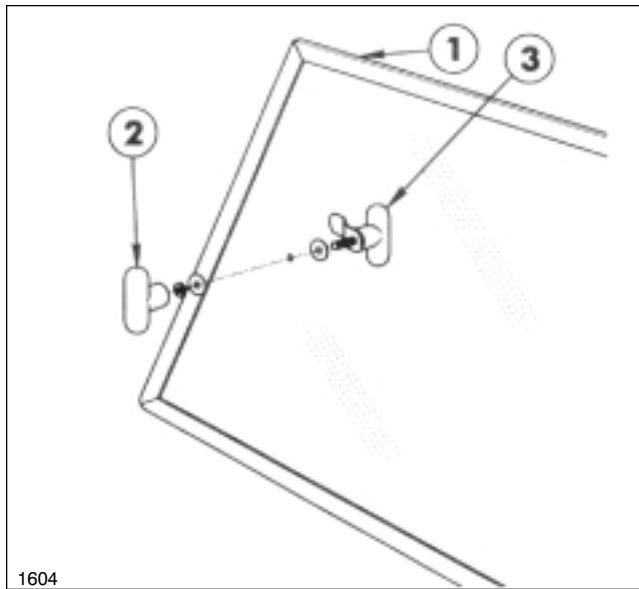

FIG.9
28. Install the Inner Door Latch Assembly through the 5/16" hole in Door with the flatwasher between latch and glass. See FIG. 9.